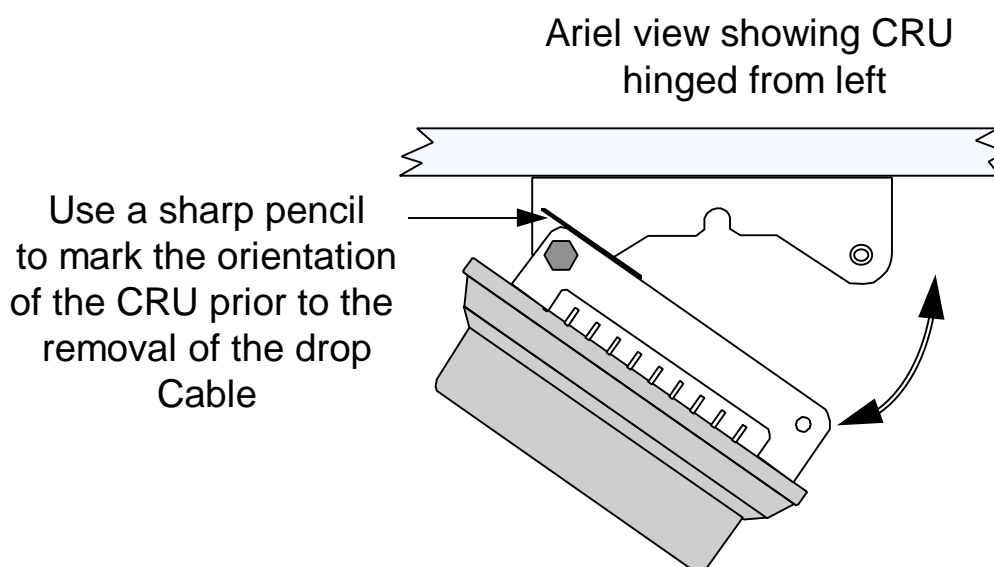

Figure 2-1. CRU Alignment Marking
1. Before loosening the bolts it is necessary to mark the alignment position of the CRU on the CRU mounting bracket (See Figure 2-1. CRU Alignment Marking). This allows the new CRU to be installed with the alignment in the original position.